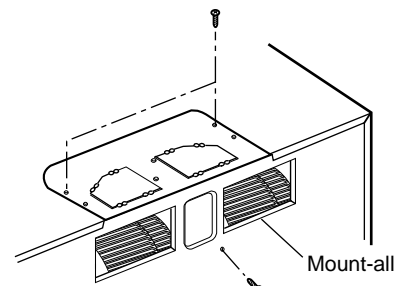

Figure 16
- (3) Remove the two screws securing the mount-all and one screw securing the ventilation fan ASS'Y. (See Figure 16)